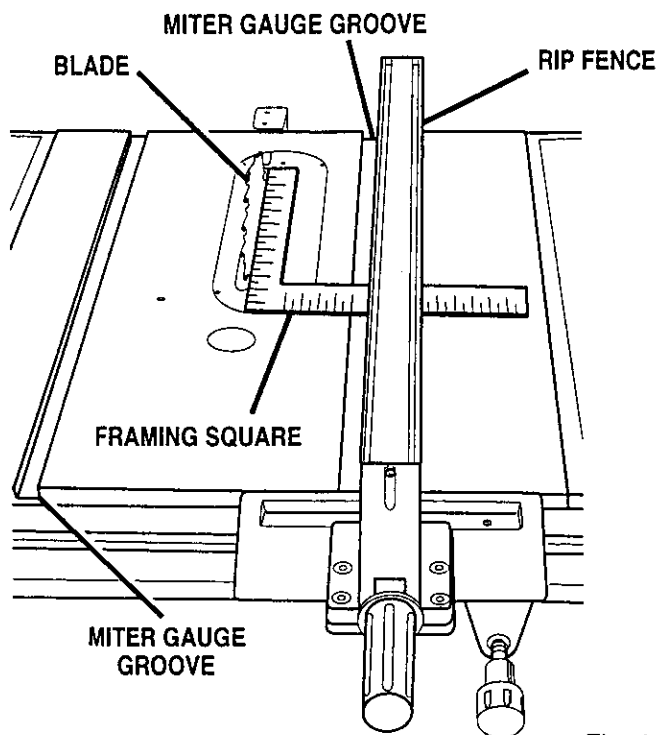

Fig. 14
- Place a framing square against the blade, with the long end under the rip fence at the front. See Figure 14. Note the distance.